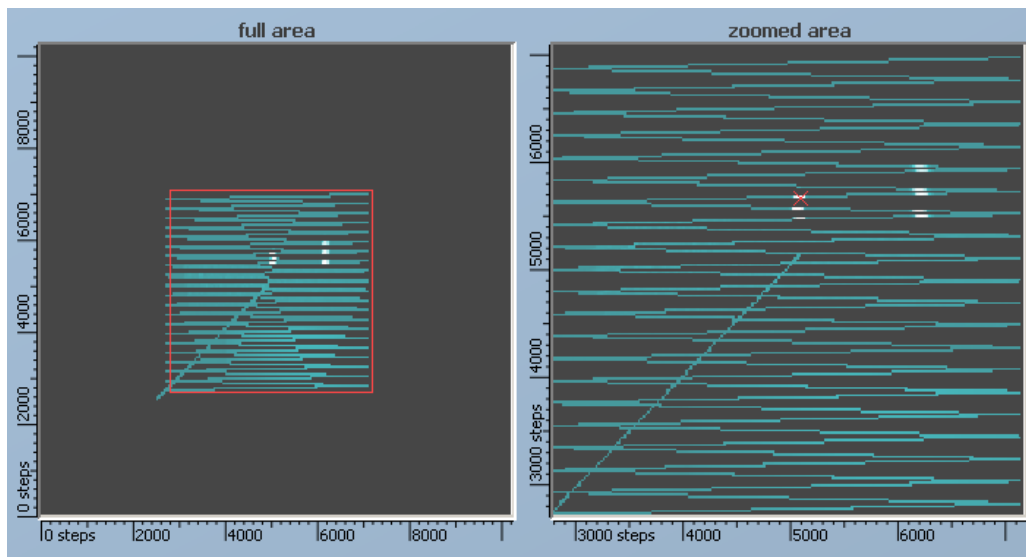

Figure 3.5.3 Manual adjustment on the probe with the two levers.
- In the **full area** field, click and drag the pointer to surround the desired selection and then, release the mouse button to finish the selection. The result is shown in **figure 3.5.3**.
- Start scanning a selected area with the holder by clicking **Scan X**. In the **zoomed area** the image of the cantilever(s) will appear (see to the right field in **fig. 3.5.3**).